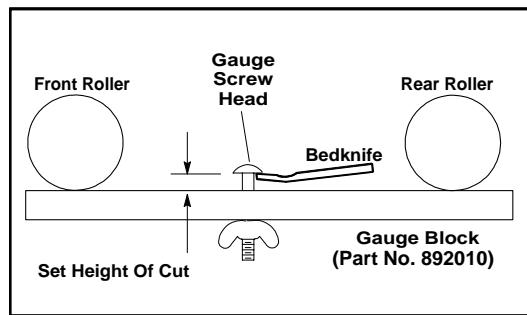

Figure 18
1. Set the height of cut on the gauge block by turning the wingnut until the distance between the bottom of the screw head and the top of the gauge block equals the desired height of cut (See Fig. 18).
Hold the gauge block across the bottom of both the front and rear rollers near the roller adjustment bracket and adjust the front roller until the cutting edge of the bedknife comes up to touch the bottom of the gauge screw head (See Fig. 18).